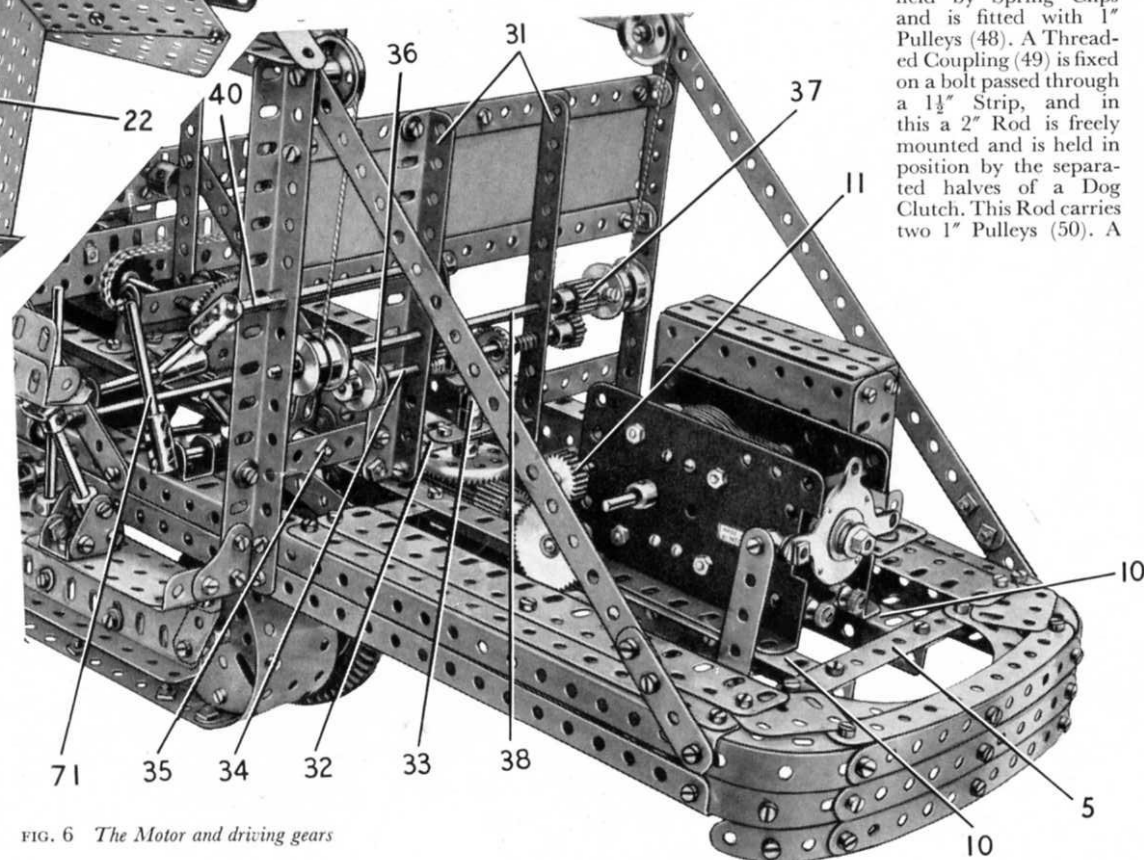

FIG. 6 The Motor and driving gears
An E20R Electric Motor is bolted by its flanges to the Girders (10) (see Fig. 6) and a
$\frac{7}{16}$ " Pinion on its armature shaft drives a 60-tooth Gear (see Fig. 2) on a 3" Rod mounted in the Motor side-plates. This Rod carries a $\frac{3}{4}$ " Pinion (11) (Fig. 6) that drives a 50-tooth Gear on a $2\frac{1}{2}$ " Rod. A Worm (12) (Fig. 2) fixed on this Rod engages a $\frac{1}{2}$ " Pinion on an $11\frac{1}{2}$ " Rod (13). The bearings for Rod (13) are provided by a Double Arm Crank (14) and a $1\frac{1}{2}$ " Strip, each of which is attached to the Girders (10) by two Angle Brackets. The $1\frac{1}{2}$ " Strip is positioned immediately behind a $\frac{1}{2}$ " Pinion (15) (Fig. 8) fixed on the Rod, which carries also a $\frac{3}{4}$ " diameter $\frac{1}{2}$ " face Pinion (16) and a $\frac{7}{8}$ " Bevel Gear (17).
Two $5\frac{1}{2}$ " Angle Girders (31) are connected to the Girders (10) by Corner Angle Brackets, and each is joined to one of the Girders (2) by a 3" Strip. The Girders (31) are connected by two $5\frac{1}{2}$ " \times $2\frac{1}{2}$ " Flexible Plates overlapped seven holes and edged by two $7\frac{1}{2}$ " Strips. These are attached to the Girders (2) by Angle Brackets. A $2\frac{1}{2}$ " \times $\frac{1}{2}$ " Double Angle Strip (32), with a Double Arm Crank bolted to it, is fixed between the lower ends of the Angle Girders (31) (Fig. 6).
A $1\frac{1}{2}$ " Contrate that meshes with the Pinion (16) (Fig. 6) is fixed on a $1\frac{1}{2}$ " Rod free in the Double Angle Strip (32) and in the boss of the Double Arm Crank. A $\frac{1}{2}$ " Pinion (33) is fixed on the upper end of the Rod. A cross shaft (34) is formed by a 5" Rod mounted in the Girders (31), and this carries two $\frac{3}{4}$ " Contrates arranged one on either side of the Pinion (33), with a Compression Spring between each Contrate and one of the Girders (31).
The movement of Rod (34) is controlled by a Bell Crank mounted on a Pivot Bolt (35) (Fig. 6). One arm of the Bell Crank is extended by a 1" Rod held in a Handrail Support, and a Threaded Pin is fixed in the other arm. The Threaded Pin engages a $\frac{1}{2}$ " loose Pulley (36) with a $\frac{3}{4}$ " Washer and a Collar on either side of it. A $\frac{1}{2}$ " Pinion on Rod (34) drives a $\frac{1}{2}$ " diam. \times $\frac{1}{2}$ " face Pinion (37) on an 8" Rod (38). This Rod carries two pairs of $\frac{3}{4}$ " Flanged Wheels and a Ratchet Wheel (39). A Pawl on a $4\frac{1}{2}$ " Rod (40) engages